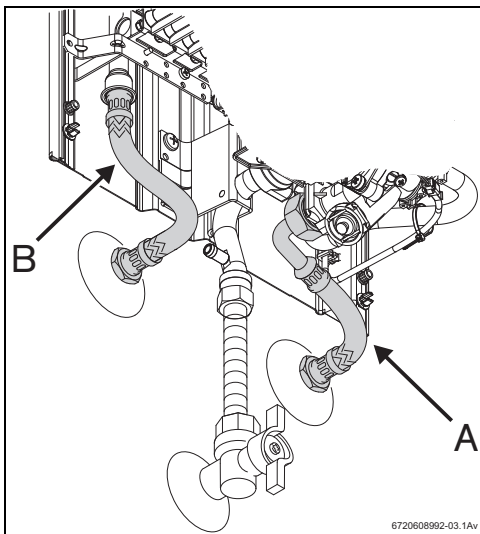

Fig. 5 Water connection
- ▶ Identify the cold water pipe (Fig. 5, [A]) and the hot water pipe (Fig. 5, [B]), so as to avoid any possible cross-connection.